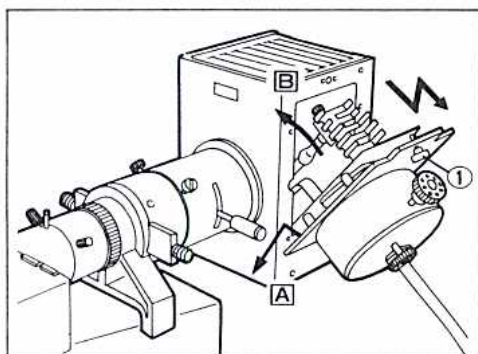

Fig. 4
- (4) Align the mounting leg of the bulb socket with the cutout of the lamp housing (A) and securely tighten the locking screw ① (B). (Fig. 4)
★ When the locking screw ① is securely tightened, a click sound will be heard. This indicates that the interlock is operating normally. (Fig. 4)
★ If the locking screw ① is loosened by mistake while the bulb is being lit, the interlock mechanism will start to operate, thus turning off the bulb. When lighting the bulb again, turn off the power switch on the power supply unit and wait for 10 minutes. Afterwards, securely tighten the locking screw ① before turning the power switch ON. (Fig. 4)